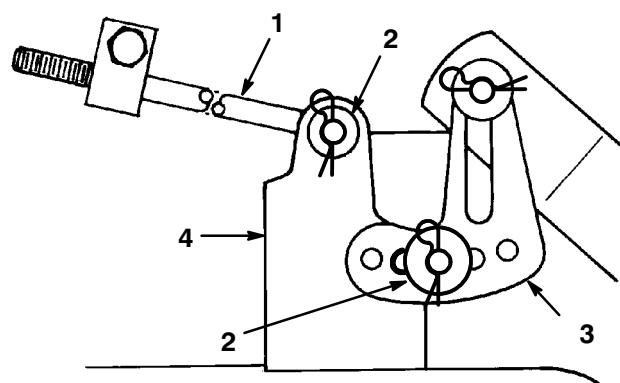

Figure 40
7. Slide the end of the long rod through the hole in the mower mount (Fig. 40). Install the washer and hair pin cotter to secure the rod in place. Repeat this step on the opposite side of the mower.
8. Mount the slotted mower leveling bracket onto the pin on the height-of-cut arm (Fig. 40). Install the washer and hair pin cotter to secure the mower. Repeat this step on the opposite side of the mower.